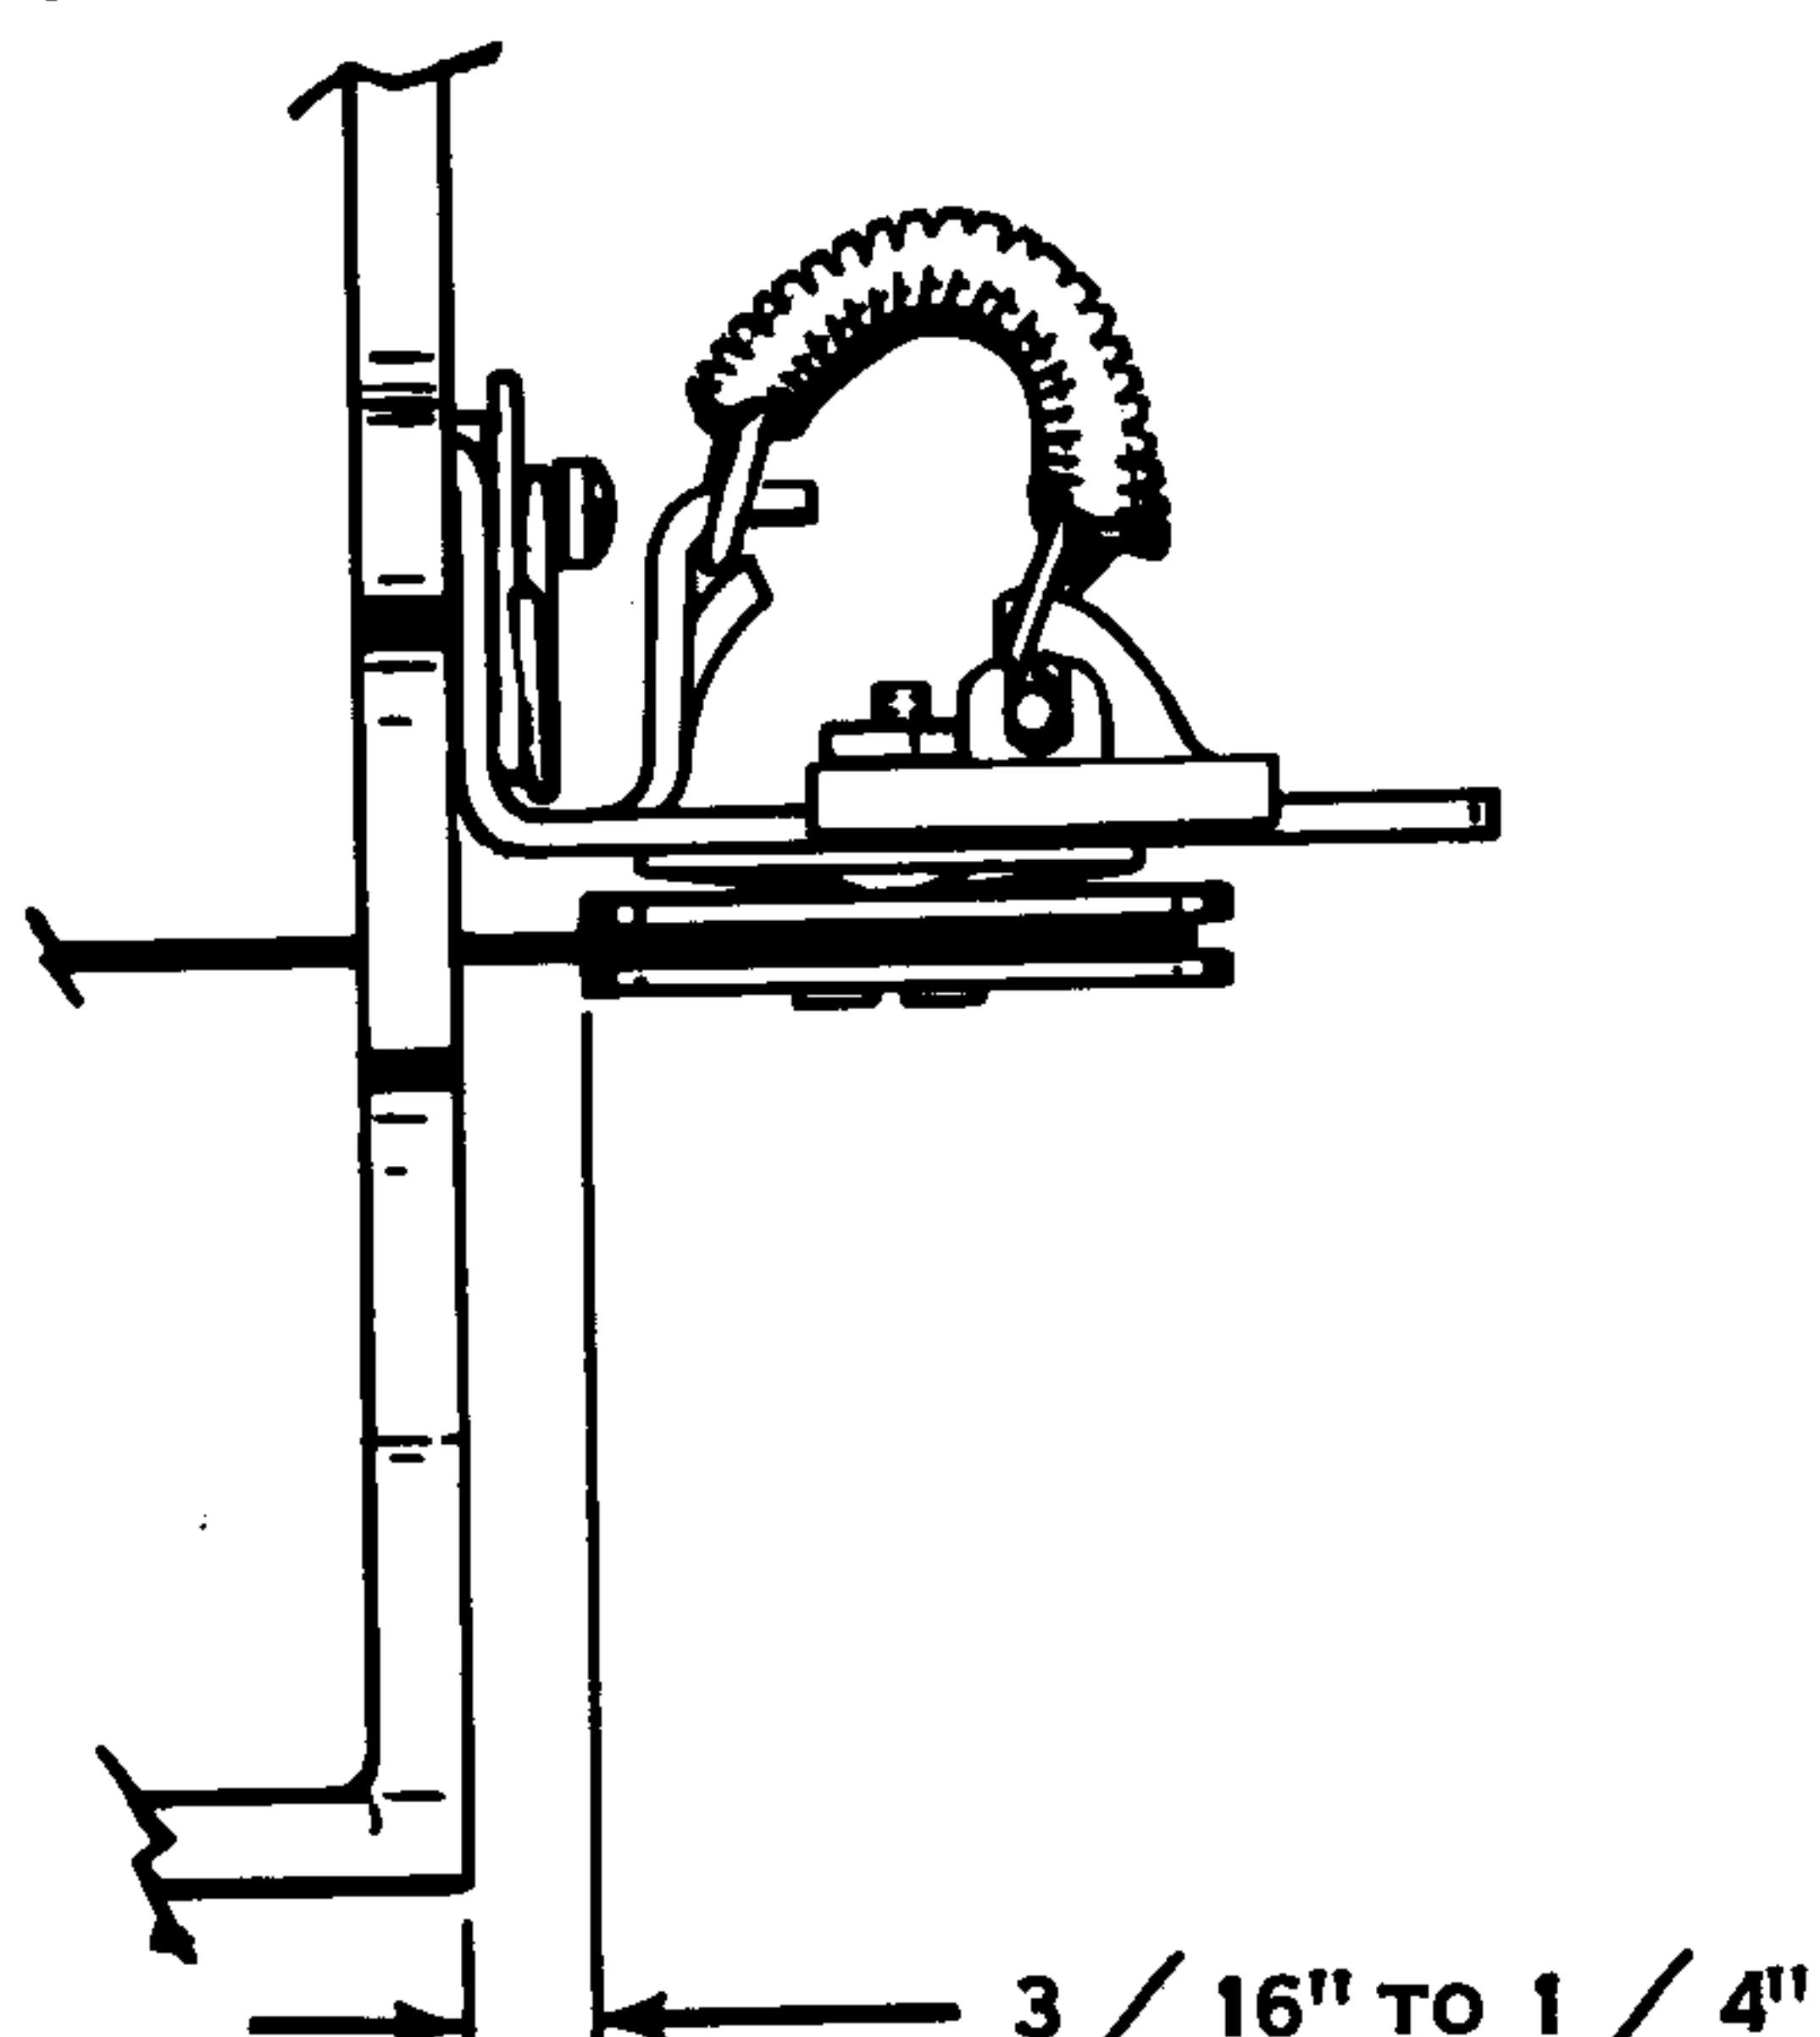

Figure 117. Cord Tension
3. Cord Tension (Fig. 117) - The carrier return cord drum should be adjusted so that the inner flange of the cord tension pulley is 3/16" to 1/4" from the power frame.